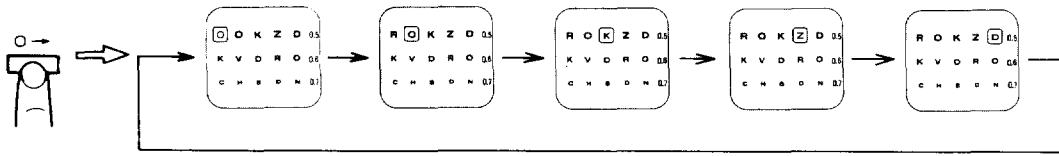
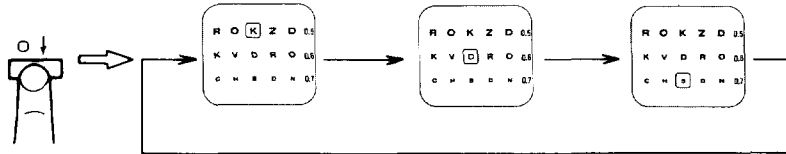

Fig. 5-5
Fig. 5-6
C) Each time the horizontal mask key for one character [(■→)] (Fig. 5-5) or the vertical mask key for one character [(■↓)] (Fig. 5-6) is pressed, the character is shifted to the right by 5 steps or downward by 3 steps.